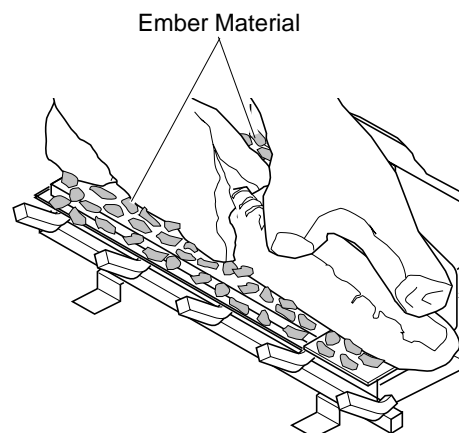

Figure 53 - Placing Ember Material on Burner
5. Pull ember material apart into pieces no larger than a dime. Place these pieces loosely onto the exposed section of the front burner and space between logs 2 and 3 where front burner is exposed (see Figure 53). This will create the glowing appearance as the flame touches the ember material. Do not block ports by using too much ember material in one area. It is not necessary to use all of the ember material provided.